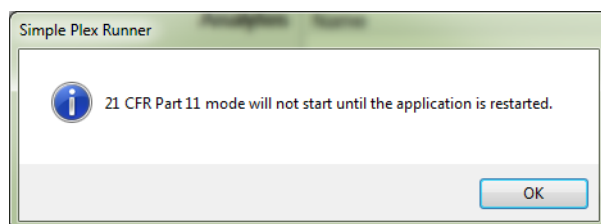

Figure 6-5: Restart application to start using 21 CFR Part 11 Mode.
3. A message will display to restart the Runner application in order to start using the 21 CFR Part 11 Mode (Figure 6-5).